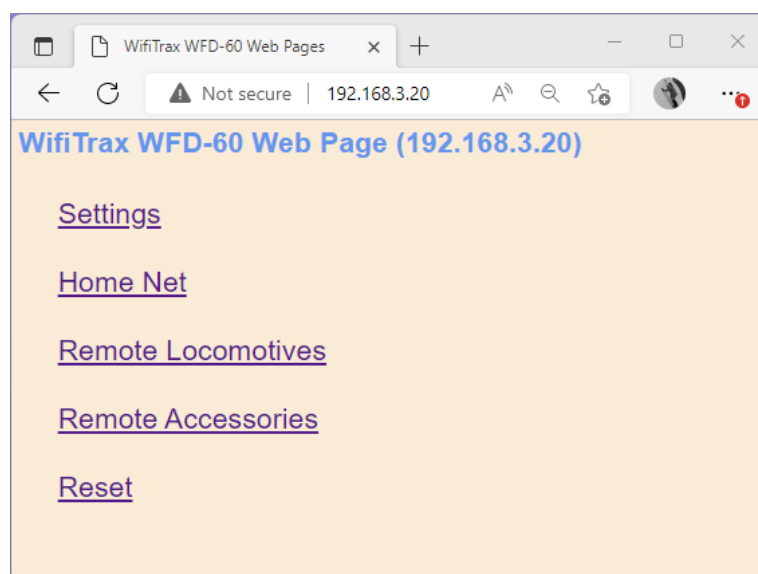

Figure 99 Use the IP Address to open the main menu web page
- f. Now open another tab in your browser and type the IP Address, 192.168.3.8 in this example, into the address bar to get the main menu web page of your module as Figure 99.